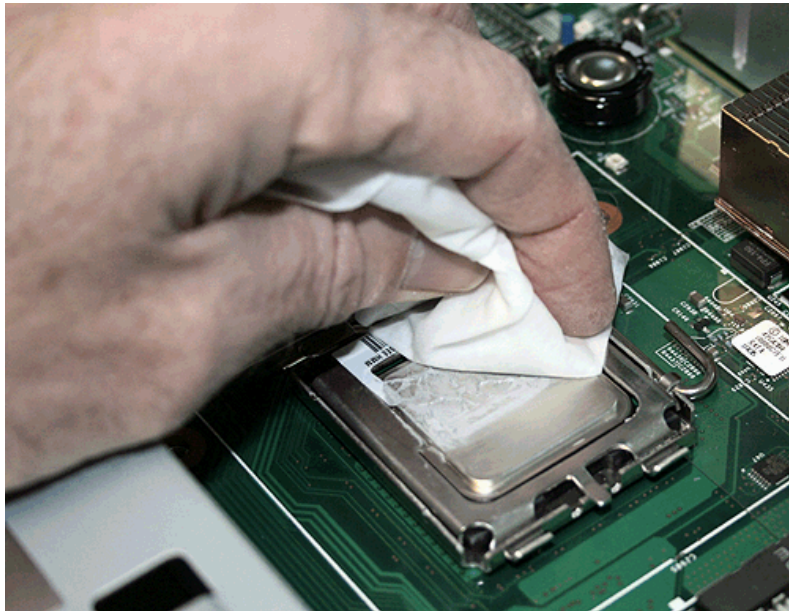

Figure 286. Removing thermal grease from the SAN Volume Controller 2145-8G4 microprocessor
14. Clean the thermal grease from the top of each microprocessor with an alcohol wipe, as shown in Figure 286. Cleaning the microprocessor before it is removed reduces the amount of handling it is subjected to.